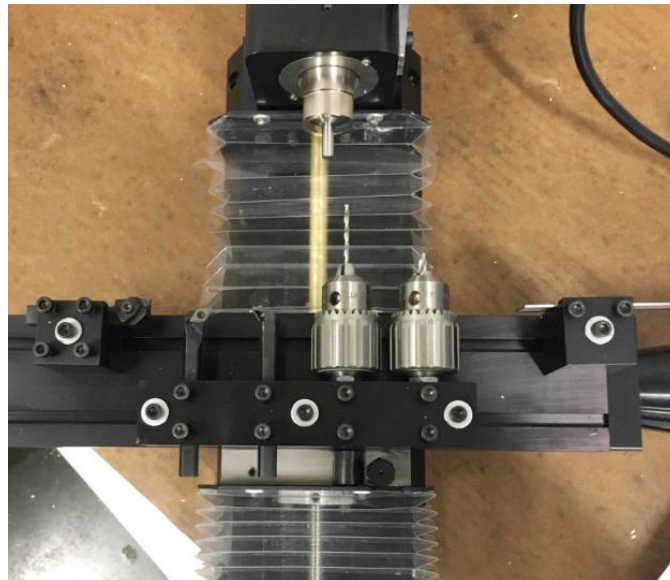

FIGURE 19
1. This program was set up for a part on our CNC Chucker Lathe, which has gang tooling (see Figure 19).